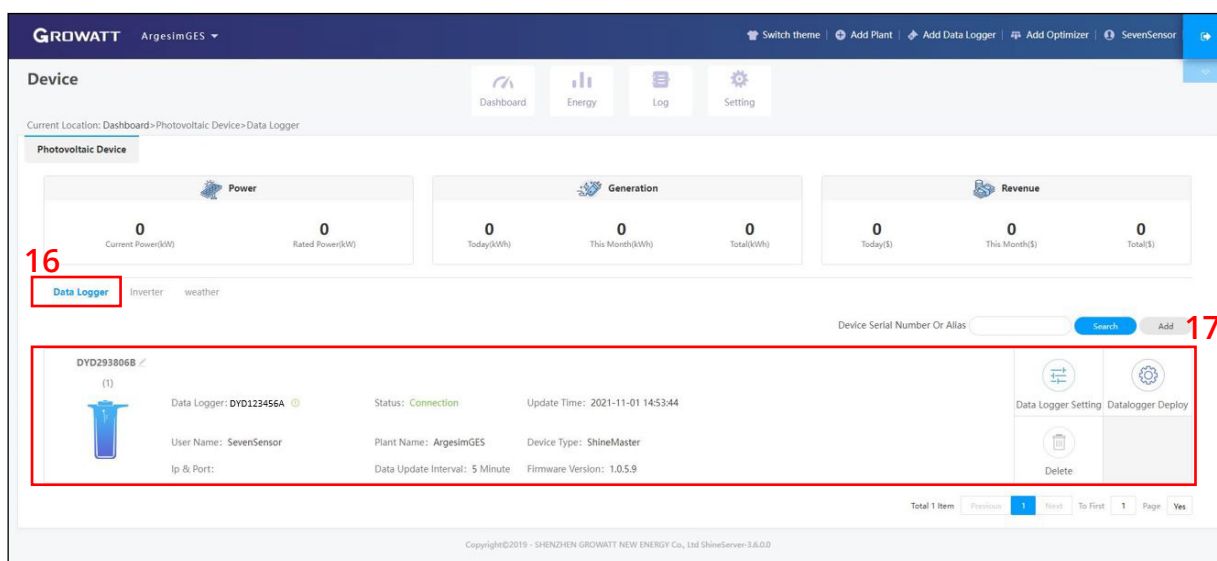

Figure 10: Added Datalogger Devices
Step 16 and 17 : After adding the device, device information will appear in **"Data Logger"** menu as shown in Figure 10.